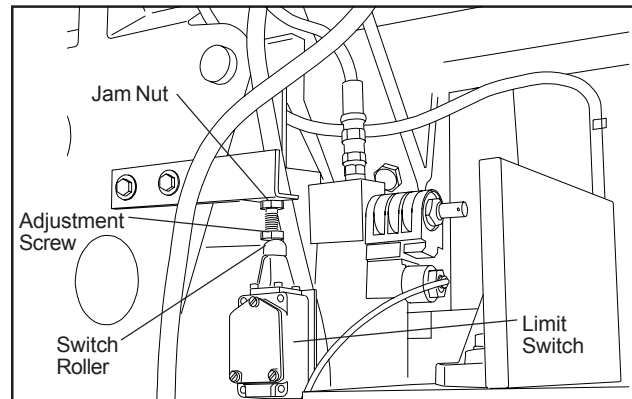

Figure 15: Limit switch adjustment
2. To set the limit switch, loosen the jam nut on the limit switch stop (figure 15).